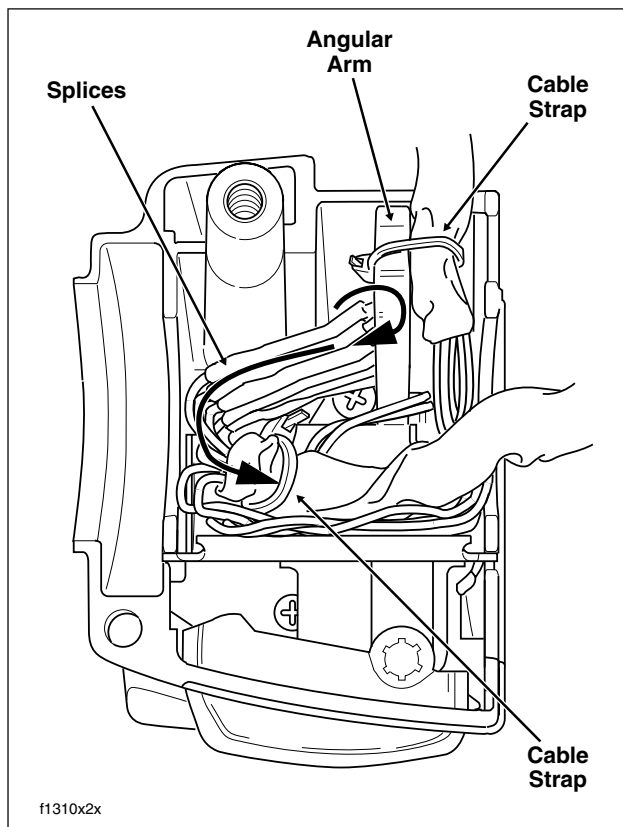

Figure 8-107. Lower Left Handlebar Switch Housing (With Splices) - Classic/Ultra Models
4. Loop switch wires so that spliced lengths are positioned as shown in Figure 8-107.
7. Route wire bundle to upper switch housing below and then forward of the main wire harness positioning conduit in channel next to angular arm of bracket. See Figure 8-107. Secure bundle to arm using **new** cable strap. Cut any excess cable strap material.